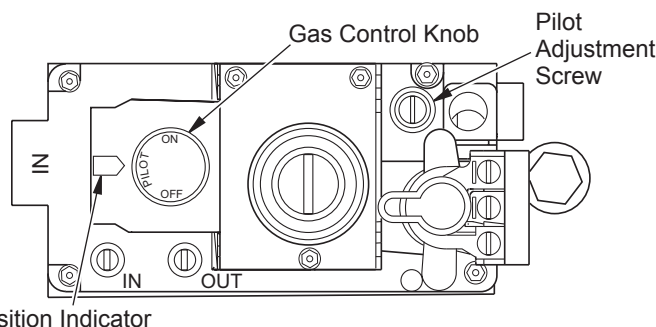

Figure 39 - Control Knob in the PILOT position
6. Turn gas control knob clockwise  to the OFF position (see Figure 39).
7. Wait five (5) minutes to clear out any gas. Then smell for gas, including near the floor. If you smell gas, **STOP!** Follow "B" in the safety information above. If you don't smell gas, go to the next step.
9. Push in the knob all the way and hold in. Immediately light the pilot manually. Continue to hold the control knob in for about (1) minute after the pilot is lit. Release knob and it will pop back up. Pilot should remain lit. If it goes out, repeat steps 5 through 9.
- Turn the adjustment screw marked pilot clockwise to decrease or counterclockwise to increase the flame to proper size (see Figure 39, page 16). Do not remove the adjustment screw.